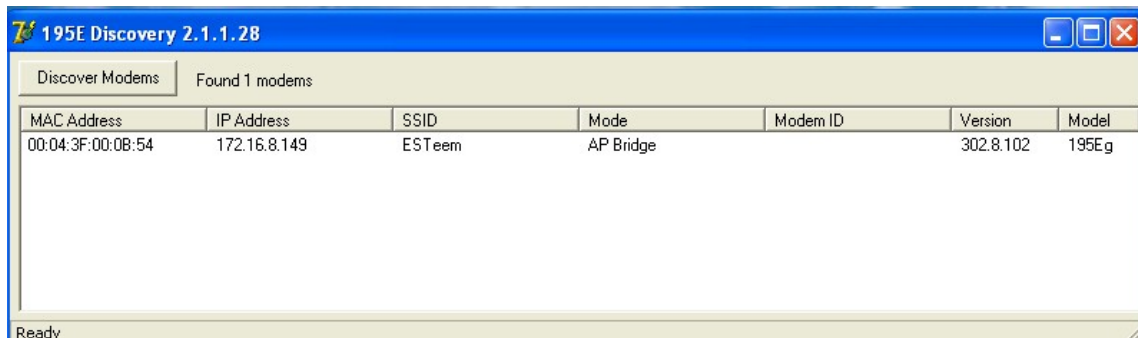

Figure 4: Discovery Program Main Page
- Connect the Model 195E to your computer either directly to the Ethernet card or through a HUB/Switch using a CAT-5e Ethernet cable. The Ethernet port on the 195E supports Auto-Negotiation, so either a patch cable or crossover cable will work. Open the ESTeem Discovery Program and press the Discover Modems button. The Model 195E will be displayed in the program by the Ethernet MAC address and Current IP Address (Figure 4).